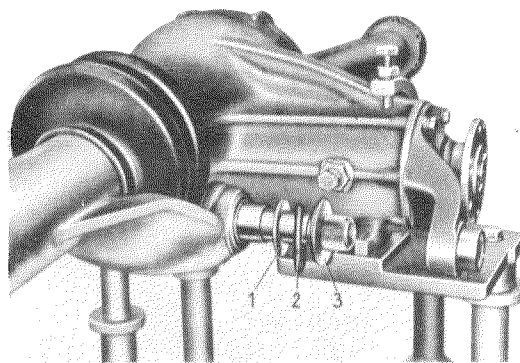

Fig. 35—4/15
50. Push the sleeve, the washer (1), the rubber ring (2) and the backing washer (3) onto the connecting pin (see Fig. 35—4/15).